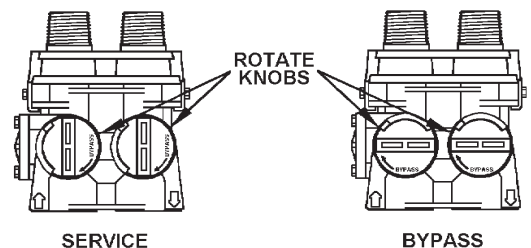
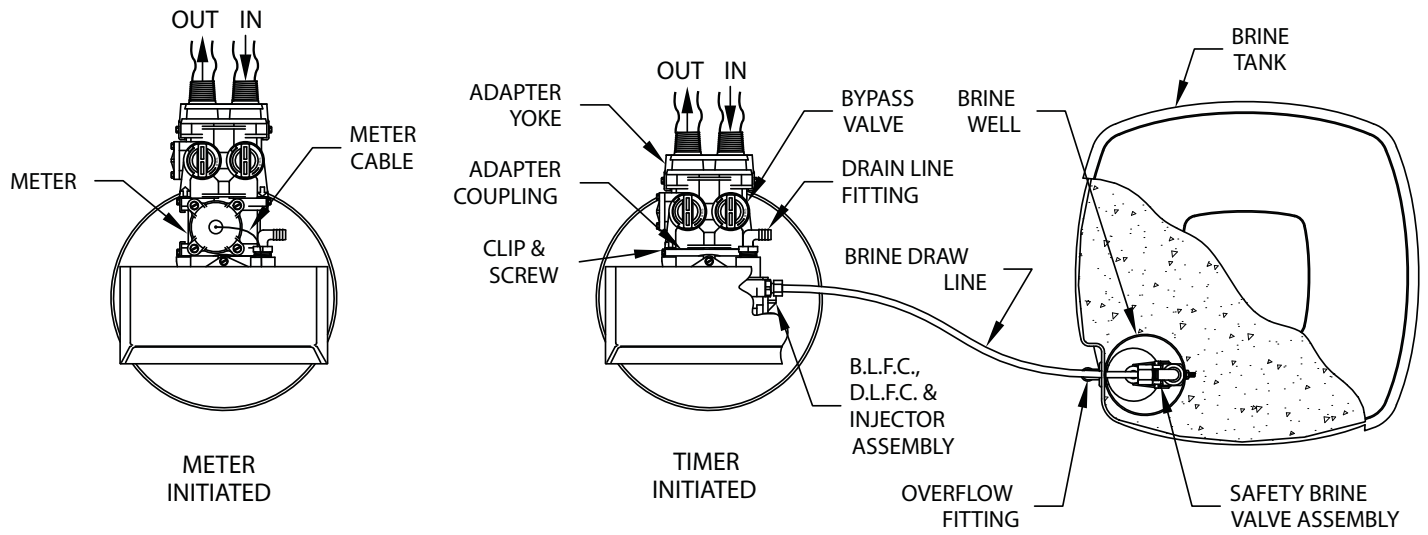

Figure 3. BYPASS VALVE
Figure 4. Softener and Brine Tank Assembly, Top View
- (b) Attach BYPASS VALVE/YOKE ASSEMBLY (Figure 3) using ADAPTER COUPLINGS, CLIPS and SCREWS to CONTROL VALVE (Figure 4). On Meter initiated models, attach METER between BYPASS VALVE and CONTROL VALVE (Figure 4).
Connect one end of the 3/8 in. poly brine line to BRINE VALVE located on right side of CONTROL VALVE. Connect other end to ELBOW inside of BRINE WELL. Brass sleeves and plastic ferrules must be used where necessary. (See Figure 3 and CONTROL VALVE PARTS drawing, Section 6).
Install OVERFLOW LINE to brine tank OVERFLOW FITTING (Figure 4). Discharge of line must be lower than OVERFLOW FITTING. DO NOT INTERCONNECT OVERFLOW LINE WITH VALVE DRAIN LINE (STEP 6).